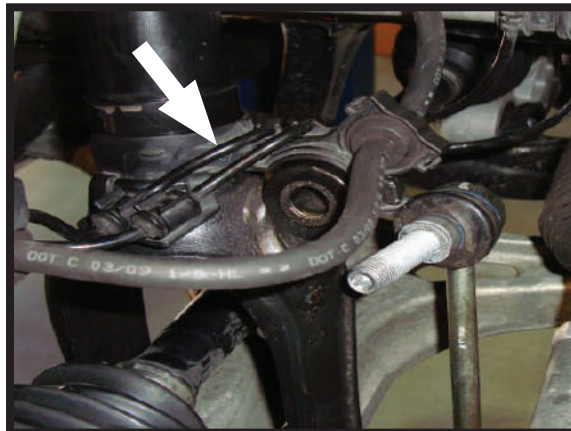

FIGURE 3
6. CUT THE CABLE TIE SECURING THE WIRE HARNESS MOUNT, THEN REMOVE THE WIRE HARNESS MOUNT FROM SHOCK. (FIGURE 3)